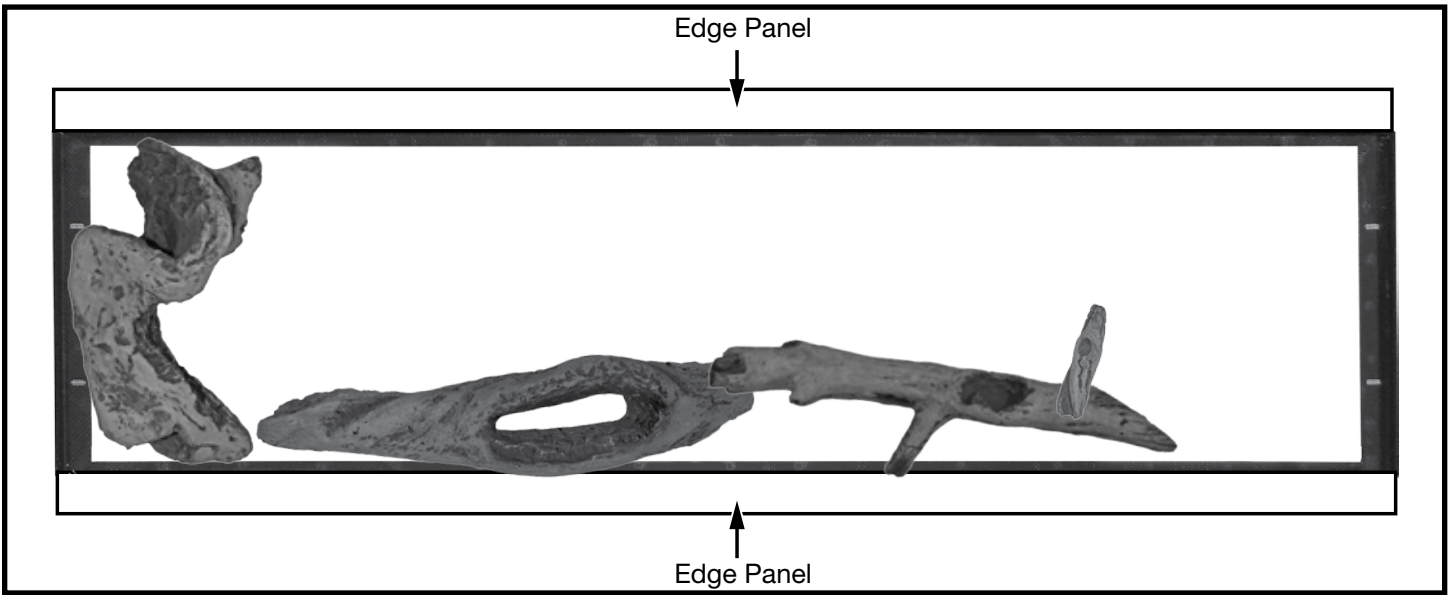

Figure 41: Log 4 placement.
- 4. The 4th log also has a socket which will fit over top of the location post of the 3rd log. Fit the 4th log over the location post and let the opposite end rest on the glass at about a 1 o'clock position (Figure 41).